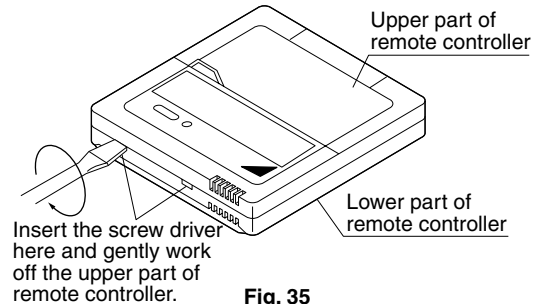

Fig. 35
- (1) Insert a \ominus screw driver into the recess between the upper and lower part of remote controller and, working from the 2 positions, pry off the upper part. The remote controller PC board is attached to the upper part of remote controller. (Refer to Fig. 35)